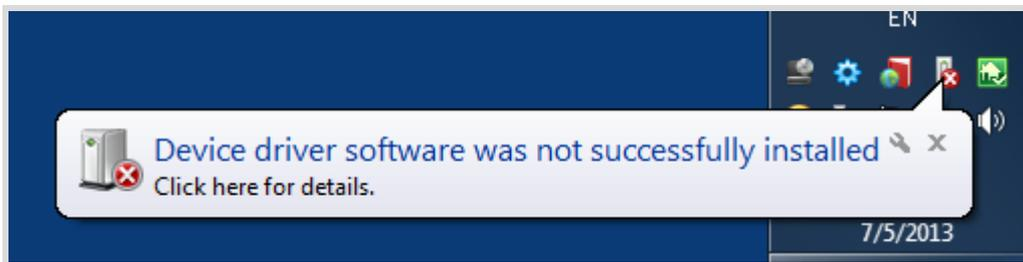

Figure 3. The "Windows" driver installation failed
- Open the "Device Manager" and locate "ETL Hyper Programmer" devices (Figure 3).